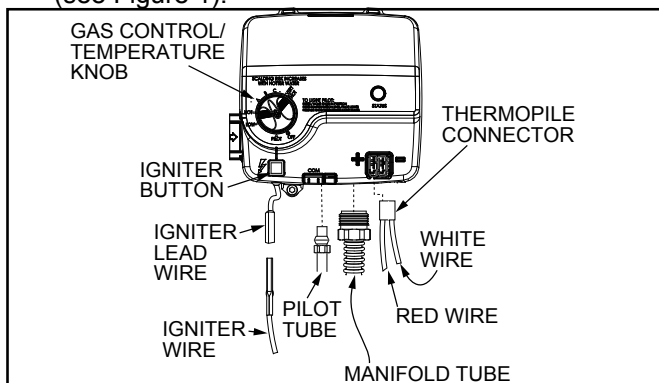

Figure 32
1. Turn the gas control/temperature knob to the "OFF" position (see Figure 30 and Figure 32).
4. Disconnect the igniter wire from the igniter lead wire. Use needle nose pliers to disconnect the thermopile connector. Disconnect the pilot tube (7/16" wrench) and manifold tube (3/4" wrench) at the gas control valve/thermostat (see Figure 32).
**Note:** Propane (LP) Gas systems use reverse (left-hand) threads on the manifold tube.
4. Disconnect the following from the gas control valve/thermostat: pilot tube (7/16" wrench), igniter wire (from the igniter lead wire), and manifold tube (3/4" wrench) (see Figure 32).
5. Use needle nose pliers to disconnect the thermopile connector from the gas control valve/thermostat (see Figure 32).
6. Reconnect the manifold tube (3/4" wrench) and pilot tube (7/16" wrench) to the gas control valve/thermostat (see Figure 32). Do not cross-thread or apply any thread sealant to the fittings.
7. Connect thermopile connector to the gas control valve/thermostat (see Figure 32).
8. Reconnect the igniter wire (see Figure 32).